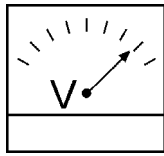

Figure 42. Voltmeter
5. The generator's AC-voltmeter (Figure 42) will display the generator's output in **VOLTS**. If the voltage is not within the specified tolerance,